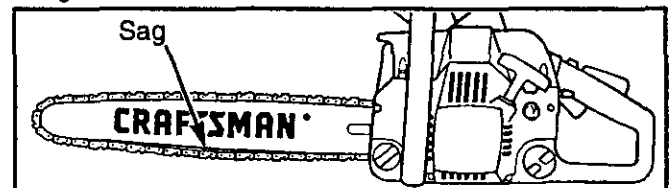

Figure 19
- If chain is too loose, it will sag below the guide bar Figure 19.